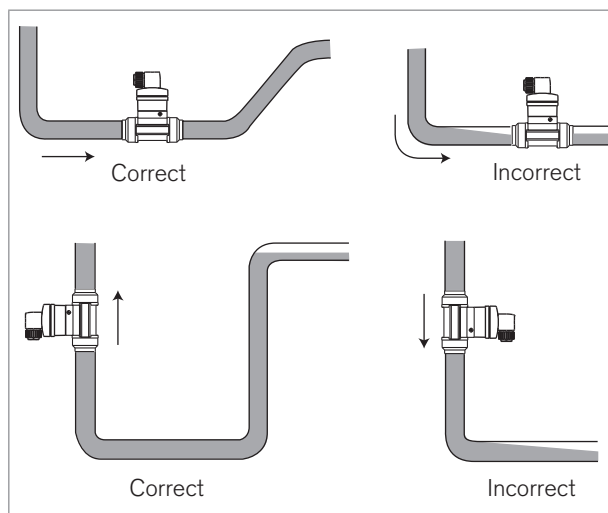

Fig. 5: Additional recommendations on installation
- Ensure the pipe is always filled with liquid (see Fig. 5).